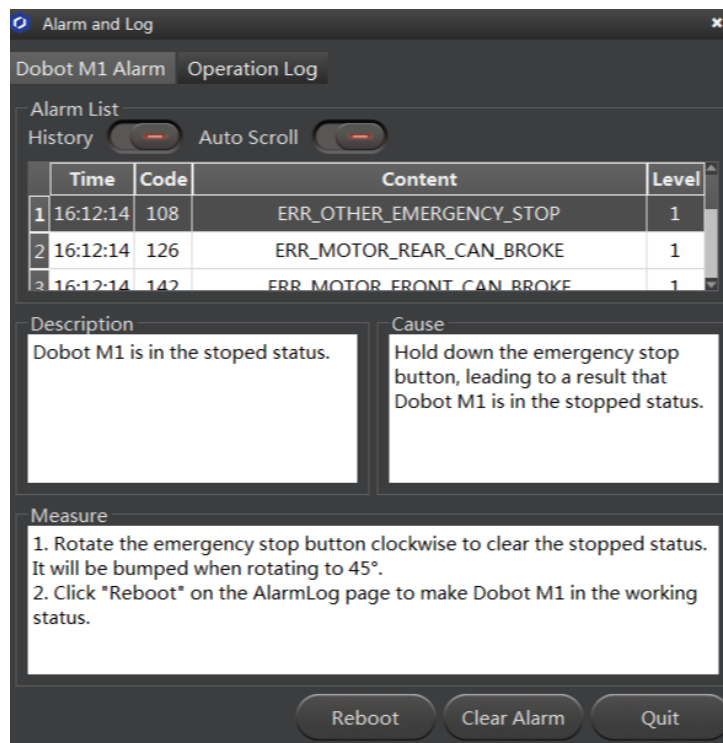

Figure 5.23 Alarm tab
Step 5 Click **Clear Alarm** on the **Dobot M1 Alarm** tab of **Alarm and Log** page, as shown in Figure 5.23.